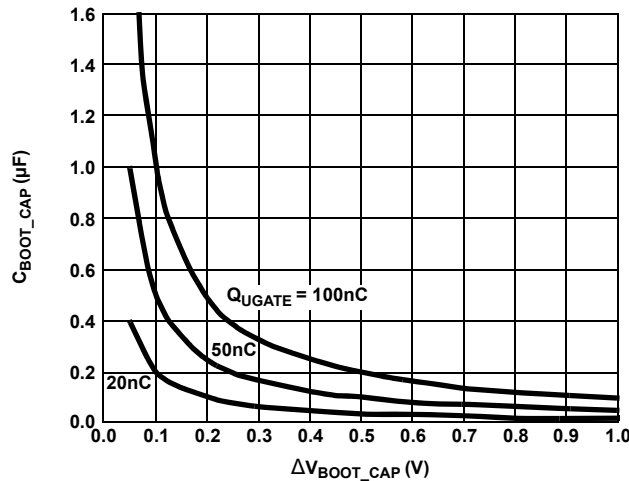

Figure 7. Bootstrap Capacitance vs Boot Ripple Voltage
- $\Delta V_{BOOT\_CAP}$  is defined as the allowable droop in the rail of the upper gate drive. Select results are exemplified in Figure 7.